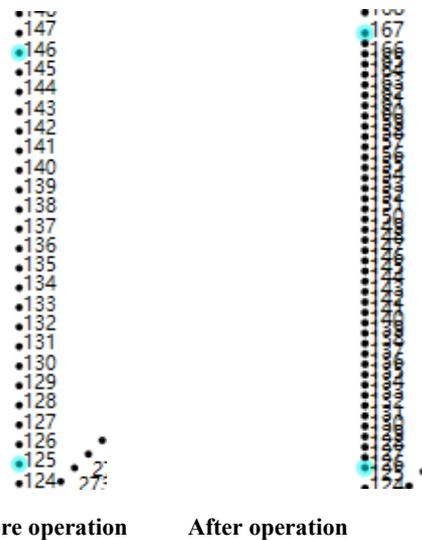

Fig. 5.3.10e Schematic Diagram of Setting Special Seam
③ You can select the style of special seam (shrinkage, bartack stitching, reverse stitching). If you select different styles, the parameter setting box on the right will be activated. Taking the shrinkage as an example, you can set the shrinkage factor (2 times as an example). After point converting of the graphic file, each point is a graphic. By holding down the "Ctrl" key on the keyboard and clicking different points with the mouse, we can select a certain number of points. After clicking OK, the selected section contained in the selected point will be processed by shrinkage according to factor. As shown in Fig. 5.3.10e below.
(1) Shrinkage: refer to Fig. 5.3.10e.